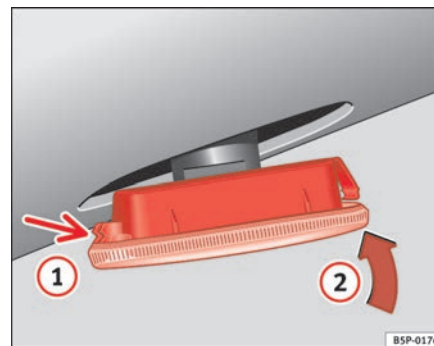

Fig. 147 Side indicators
- First fit the indicator in the opening in the chassis, fastening the tabs ① ⇒ page 220, fig. 147, and then fit the lamp as shown by the arrow ② ⇒ page 220, fig. 147. ■